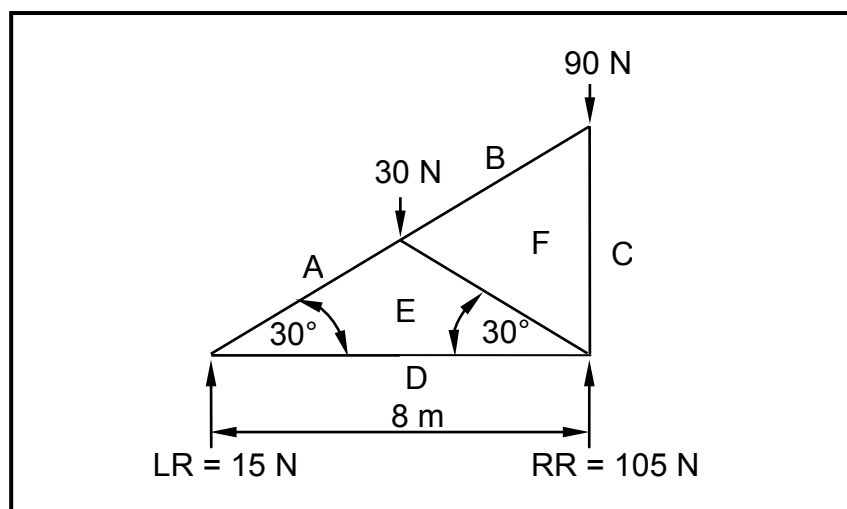

FIGURE 5.4
- 5.4 FIGURE 5.4 below shows the space diagram of a roof truss with a span of 8 metres and two point loads of 30 N and 90 N.